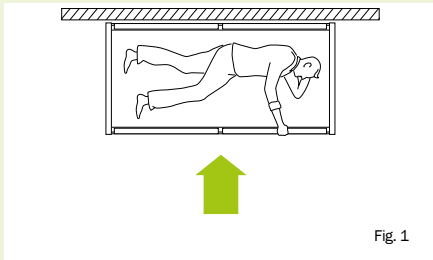

Fig. 1
1. Flexible use of the bed for standard care, even in limited spaces (fig. 1)